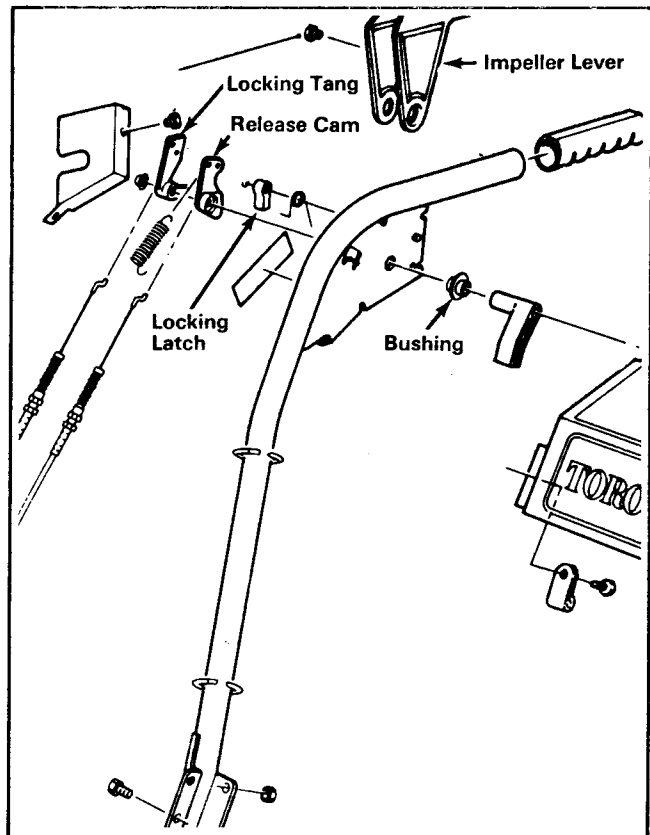

Figure 112
3. Slip the impeller lever bushing onto the cross rod, then place the impeller lever into position. Slide the cross rod through the left impeller lever hole and snap the impeller lever bushing in place. See Figure 112.